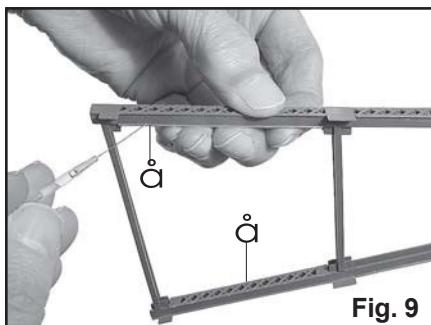

Fig. 9
To assemble, pick up the bent assembly and hold part (4) against the bent edges, with its ribs outside each bent half. See Fig. 9. Apply cement along one edge at a time.
13. Cement a second **tower strut lattice** part (12) to the top of the tower strut assembly.
To assemble, remove the straight pins, pick up the tower strut assembly, and hold part (12) against the assembly (similar to fig. 9) with its rivet detail to the outside and its ribs outside of parts (10) and (11). Apply cement along the ribs while applying pressure.